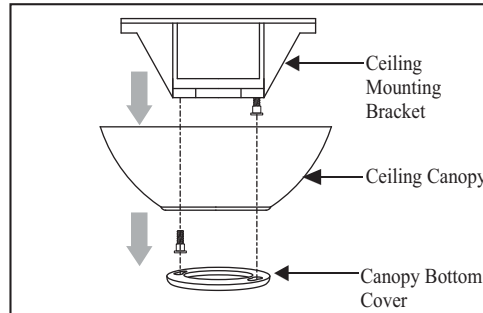

Figure 5
1. Remove the decorative canopy bottom cover from the canopy by turning the cover counter clockwise. (Figure 5)